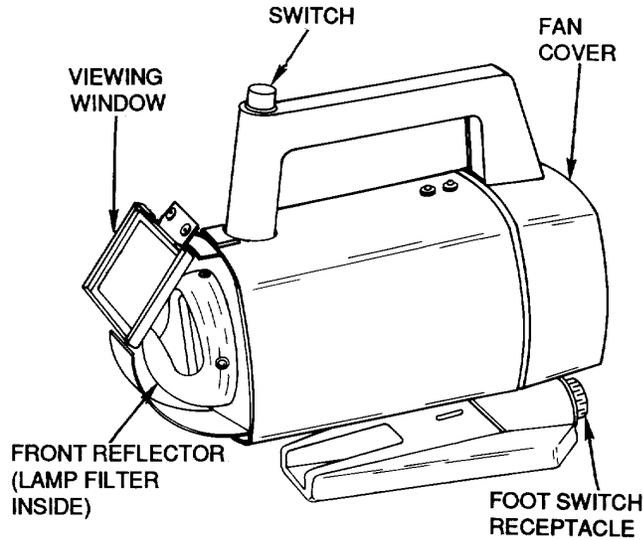

Figure 9. Infrared Heating Tool, IR-550 Mark II
(1) Observe the solder ring in the connector for reflow. Do not leave heat on connector longer than is required to achieve a high integrity connection.
31. Infrared heating tool, IR-550 Mark II (Figure 9), is a portable electric heating tool designed for fast reliable installation of solder devices and other heat-shrinkable products. It can be used as a hand tool or as a bench heater. As a hand tool, it is operated by a switch on the handle; as a bench heater, it is operated by a foot switch or the handle switch. This tool provides an unobstructed view of work in process and quiet, hands free operation. Instant on/off heat is generated by an optically filtered, commercially available tungsten-halogen lamp. Reflectors focus the heat from the lamp, concentrating heat energy within the work area of the front reflector. Optical filter between the lamp and the work area eliminates glare from the lamp, allowing the operator to observe the heating process. Tool is also equipped with a viewing window to ensure operator eye comfort. These features minimize operator errors and fatigue, significantly reducing installation time and costs. Specifications are listed in Table 2.
32. **PRE-OPERATION.** Prior to using infrared heating tool (Figure 9), proceed as follows:
35 . **POST-OPERATION.** After using infrared heating tool (Figure 9), proceed as follows: